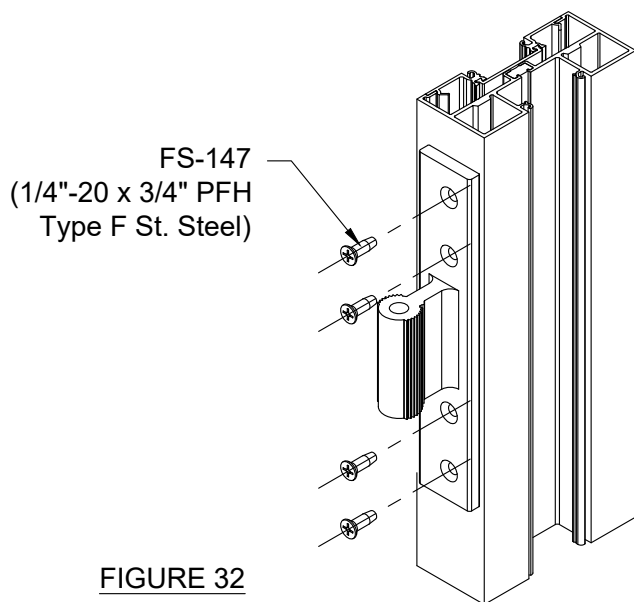

FIGURE 32
- 2) Install anchor onto face of mullion using four FS-147 (1/4"-20 x 3/4" PFH Type F Stainless Steel) fasteners. SEE FIGURE 32